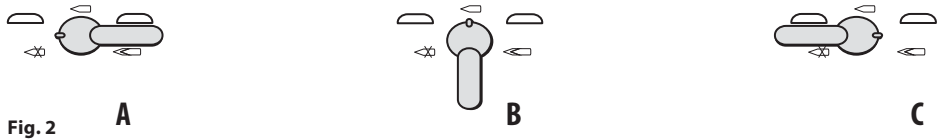

Fig. 2
1. Locate the safety/fire selector switch on the left side above the pistol grip (Fig. 2).